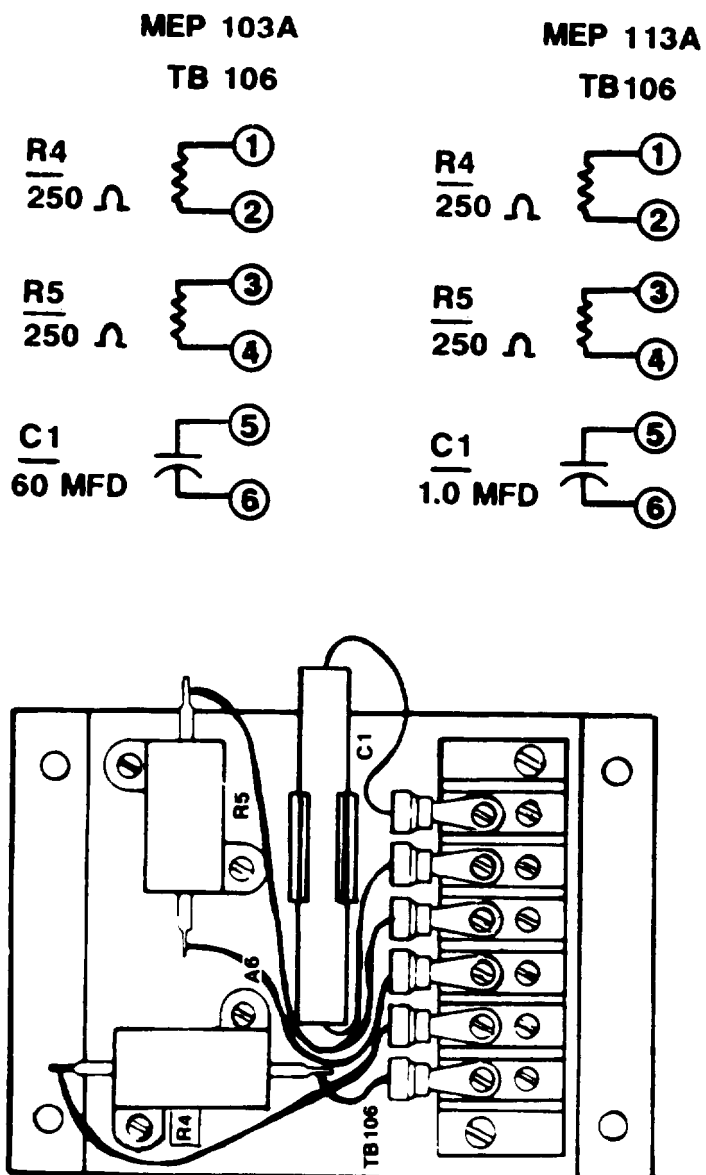

Figure 3-127. Electronics Components Assembly
- (11) Replace relays which fail to perform as specified.
- (12) Test electronic components assembly as follows: (See schematic diagram in figure 3-127).
- (13) Replace defective components of electronic components assembly using figure 3-127 as a guide, and Appendix A references for detailed soldering and replacement procedures.